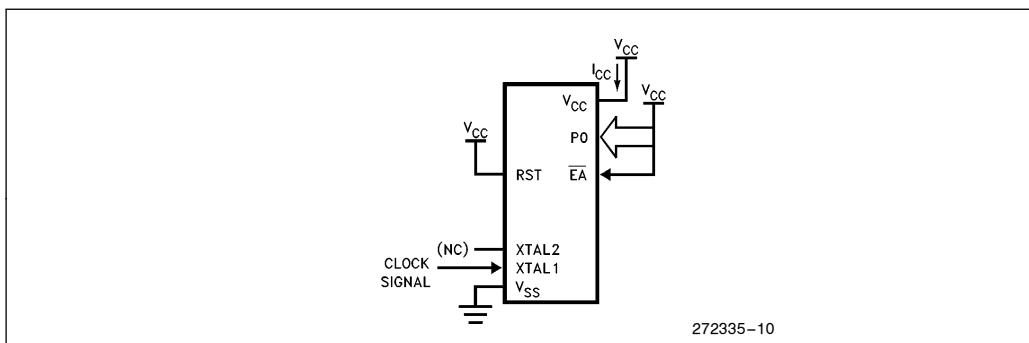

Figure 6. I_{CC} Test Condition, Active Mode. All other pins are disconnected.
- 4. See Figures 6 through 8 for I_{CC} test conditions. Minimum V_{CC} for Power Down is 2V.